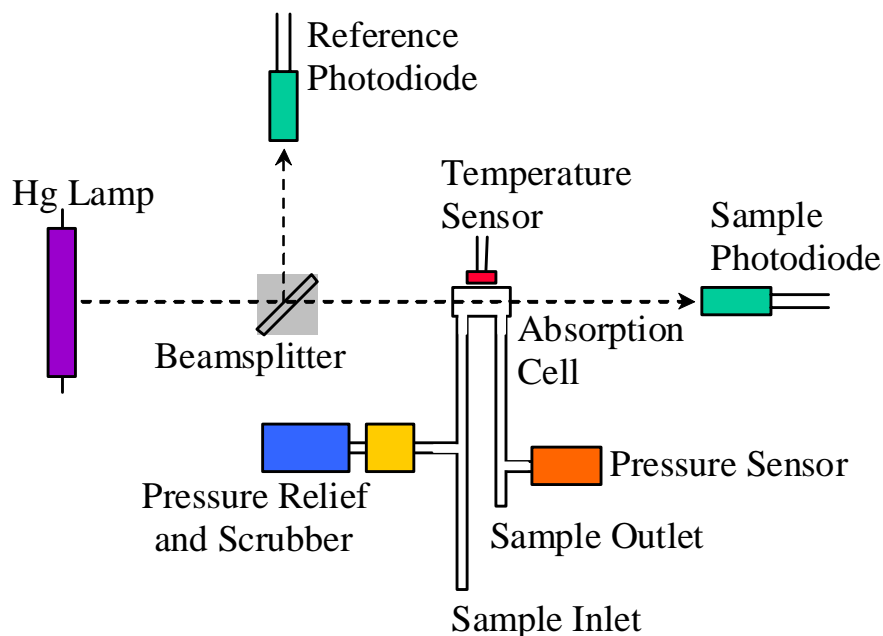

Figure 1. Schematic Diagram of the Ozone Monitor.
Figure 1 is a schematic diagram of the Ozone Monitor. Ozone is measured based on the attenuation of light passing through a 0.1 cm absorption cell fitted with quartz windows. A low-pressure mercury lamp is located on one side of the absorption cell, and a sample photodiode is located on the opposite side of the absorption cell. The photodiode has a built-in interference filter centered on 254 nm, the principal wavelength of light emitted by the mercury lamp. A beamsplitter and reference photodiode are used to monitor the lamp intensity without the sample in the beam path. The intensity of light is measured from the reference photodiode (I_0) and from the sample photodiode (I).